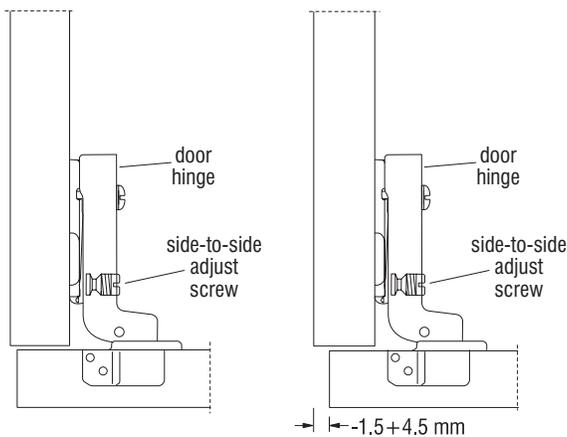

Figure 5 - Side-to-Side Adjustment
3. For **side-to-side adjustment**, turn the side-to-side adjust screw in or out. The screw works in conjunction with the inner leaf of the hinge arm to move the door back or forth without a change in gap between the door and the cabinet (Figure 5).